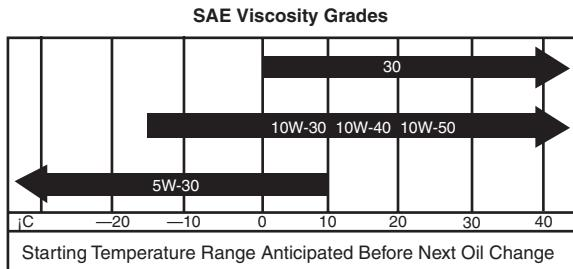

Figure 13
3. The engine uses any high-quality 10W30 detergent oil having the American Petroleum Institute—API—“service classification” SH or higher. Choose a viscosity according to the table in figure 13.